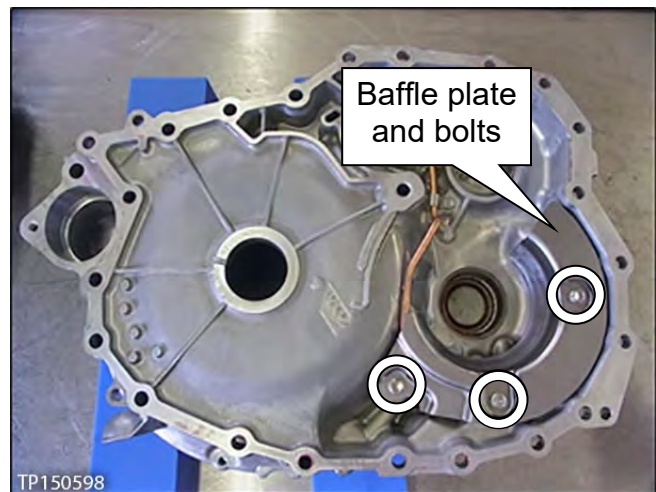

Figure 53
4. Remove the three (3) bolts, and then remove the baffle plate from the converter housing (see Figure 53).